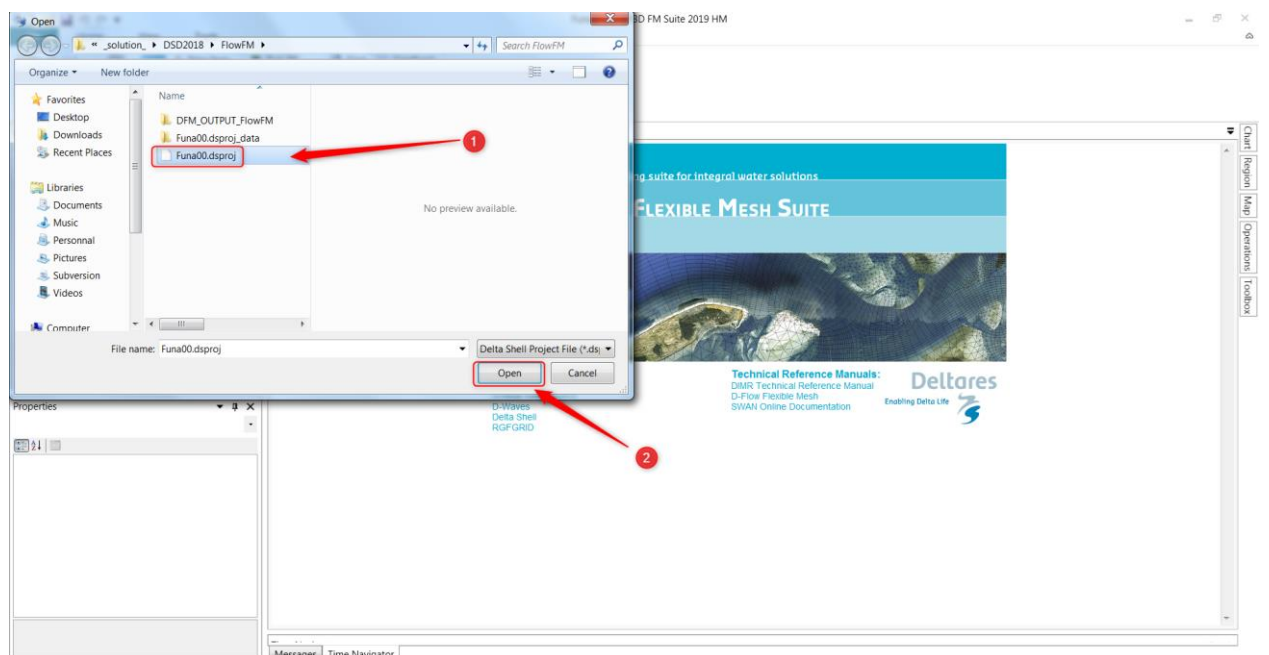

Figure 2.2 Selecting the model and opening it
- 2) Go to the directory and select the file with the name *Funa00* (see Figure 2.2).